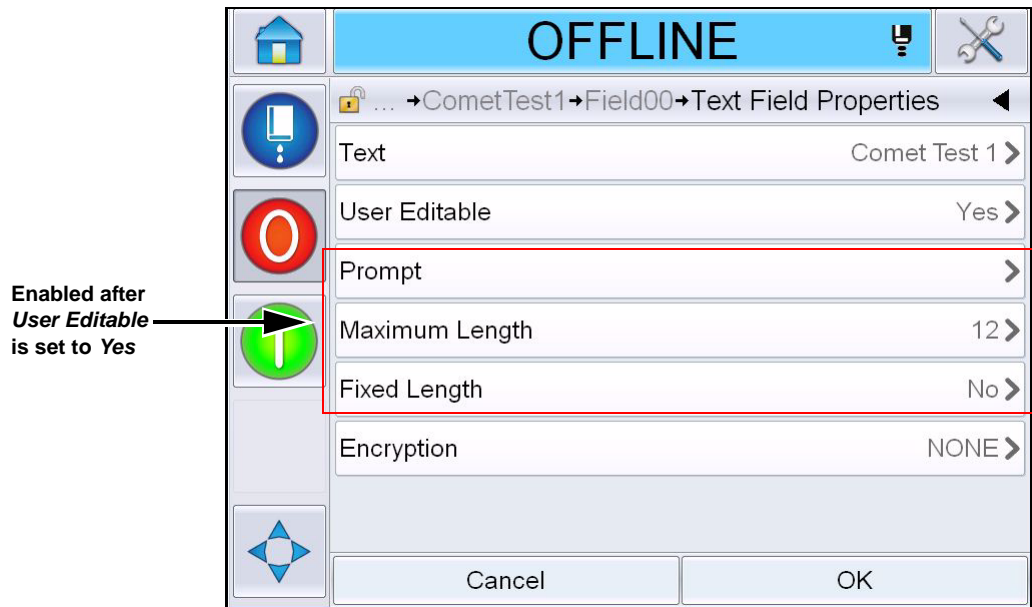

Figure 5-56: Additional Text Field Properties Screen
- 3 Touch *User Editable* and select *Yes*. A list of additional fields appear (see Figure 5-56).